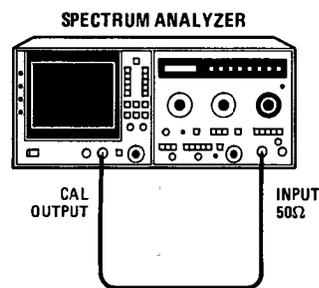

Figure 5-61. Absolute Amplitude Calibration Test Setup
2. Reconnect power cord, set LINE switch ON, and connect equipment as shown in Figure 5-61. Set all normal (green) spectrum analyzer settings, except as indicated, and other controls as follows: